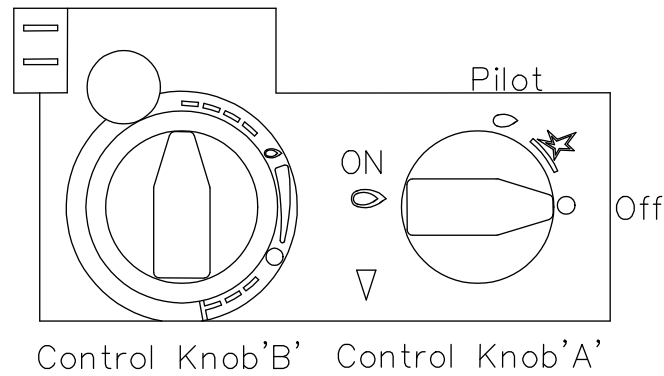

Figure 8
- 1 **Lighting:** See Figure 8.